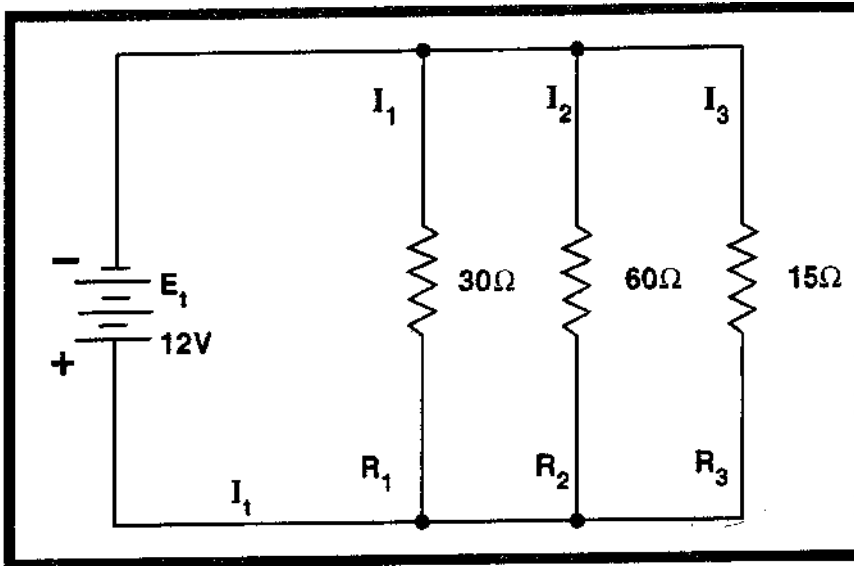

Fig. 9.11. Circuit Diagram.
38. (Refer to figure 9.11) Determine the total current flow in the circuit.